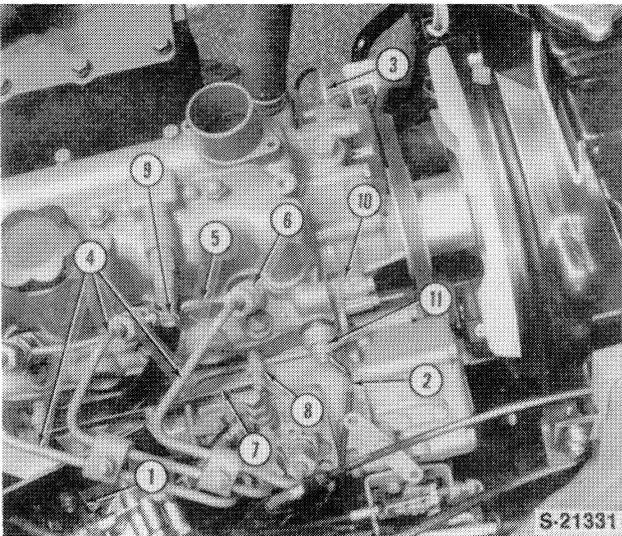

FIGURE 1-20
2. Disconnect the glow plug terminal wire, 1, Figure 1-20.
3. Disconnect the engine oil pressure sensor wire, 2, Figure 1-20.
4. Disconnect the coolant temperature sensor wire, 3, from the temperature sensor, Figure 1-20.